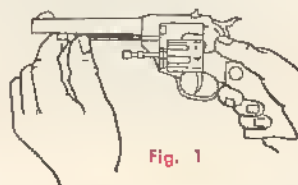
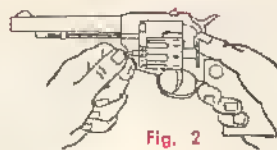

Fig. 1
Fig. 2
2. Hold Revolver in right hand with index finger of left hand against front of ejector latch housing. With left thumb move ejector latch to extreme forward position and, at the same time, swing out cylinder to left by pressing right index finger against it (See Figure 1). Be sure to release ejector latch.
7. To unload revolver or remove fired cartridge cases, move ejector latch to extreme forward position and at the same time, swing out cylinder to left by pressing right index finger against it (See Figure 1), and push ejector rod to the rear (See Figure 2).